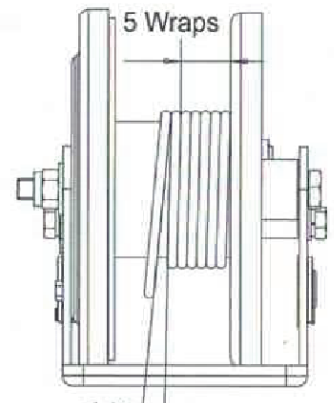

Fig.2
3. **Always leave at least 5 wraps** of the cable on the drum (Fig.2). Failure to do so may break cable connection to drum and may result in serious accident.
4. Fitting the winch with the fleet angle no more than 4° . (Fig.2)